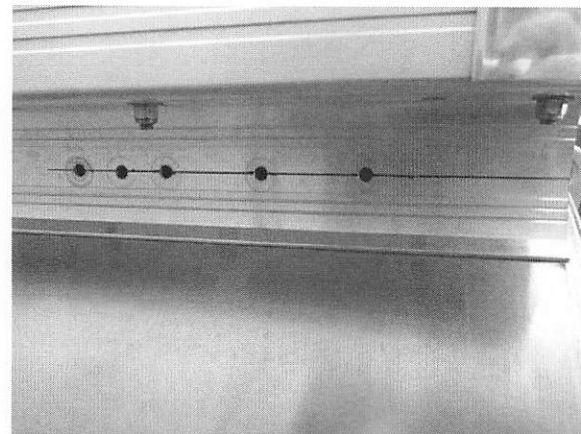

Figure 2
1. Mark the horizontal centerline of the "outboard leg" of both "M" brackets, (at stern end of bracket, and approximately 14" towards the bow). Using a felt tip marker with black ink, draw a line connecting the centerline marks. (Fig. 2)